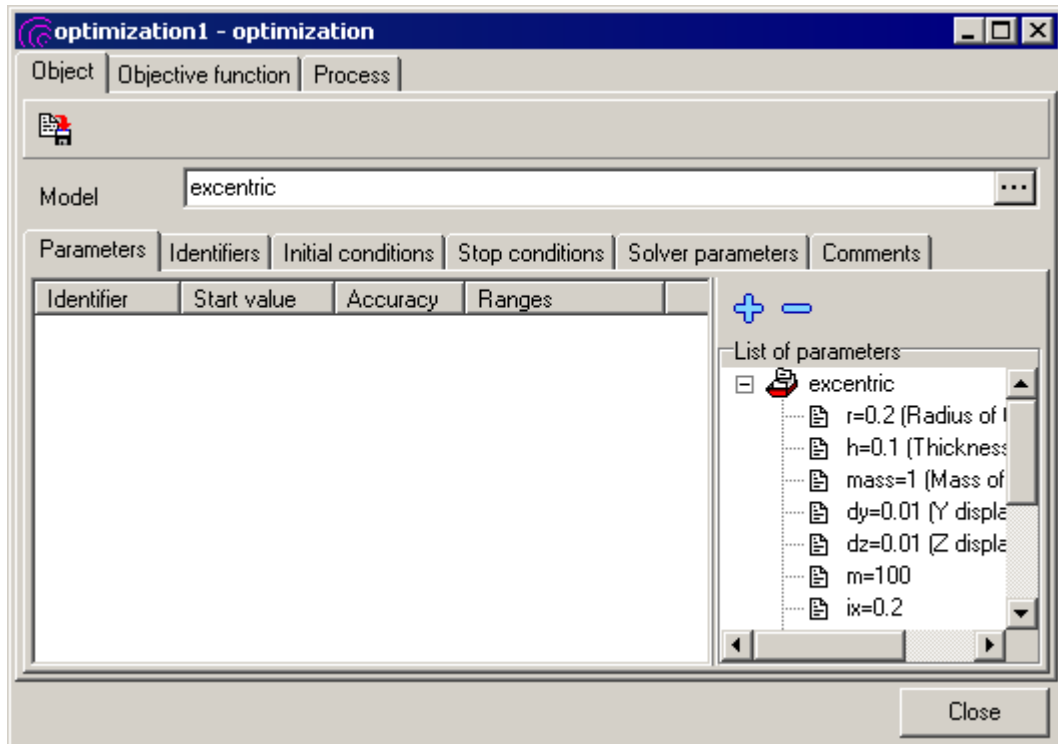

Figure 5.5. Optimization project: loading a model
2. Select the `{um_root}\samples\tutorial\excentric` model. Model will be loaded and its parameters are show in the right part of the window, see Fig. 5.5.